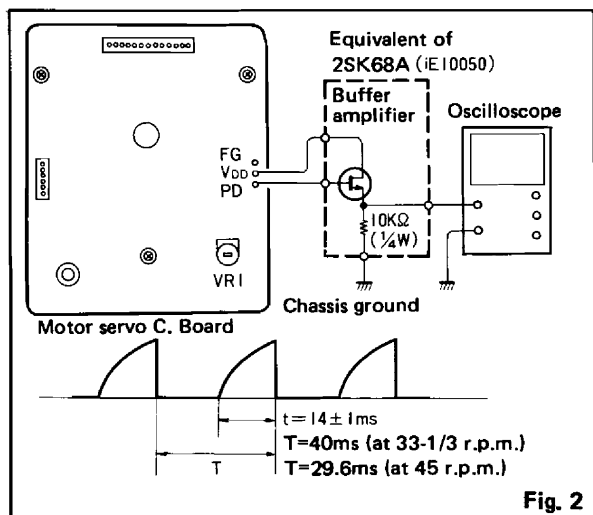

Fig. 2
- 1) As in Fig. 2, connect the buffer amplifier to the motor servo circuit board.
- 3) Connect an oscilloscope set at 10 kohms resistance level, to both terminals of the source in the buffer amplifier. Adjust the VR 1 so that "t" of the saw tooth wave is $14 \pm 1\text{ms}$ as in Fig. 2.